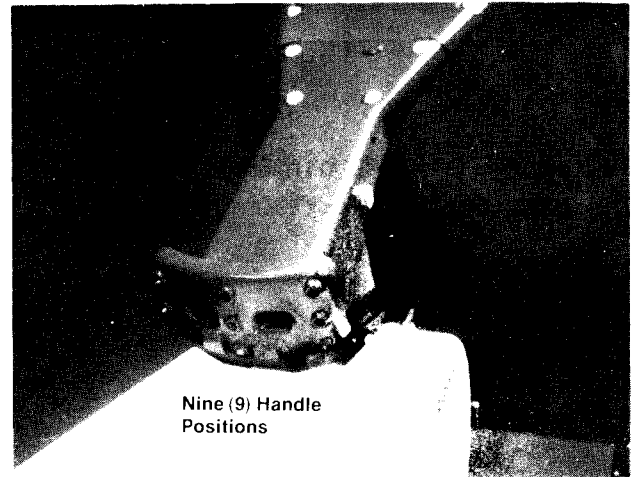

FIGURE 28.
- A. Squeeze up on handle adjustment lever and place the handle in one of nine (9) positions. See figures 28, 29, 30 and 31.
Figure 28 is viewed from the front of tiller for clarity.